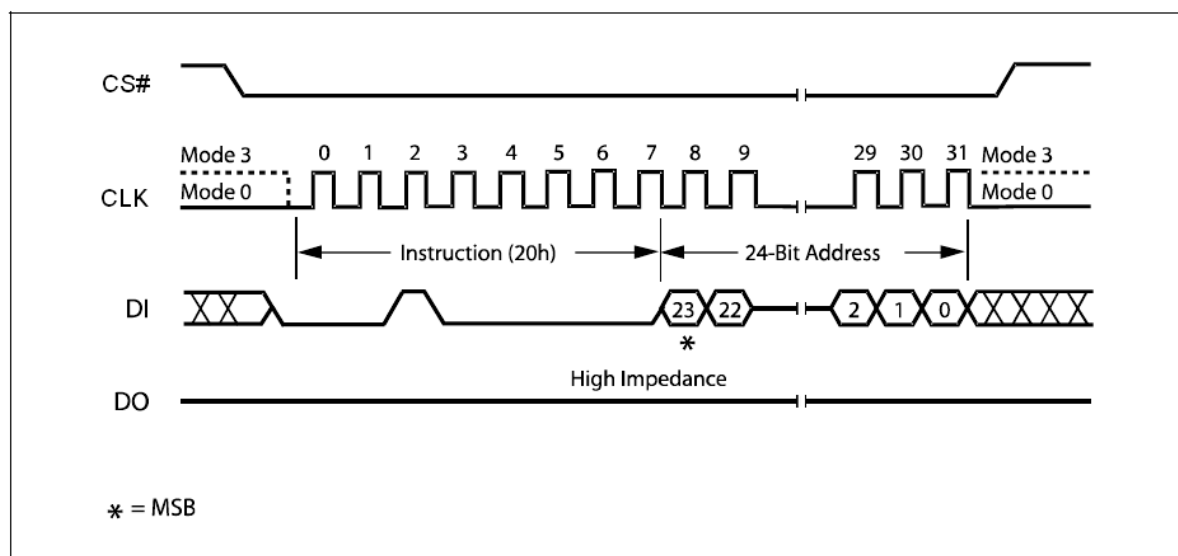

Figure 23. Sector Erase Instruction Sequence Diagram
The instruction sequence is shown in Figure 23. Chip Select (CS#) must be driven High after the eighth bit of the last address byte has been latched in, otherwise the Sector Erase (SE) instruction is not executed. As soon as Chip Select (CS#) is driven High, the self-timed Sector Erase cycle (whose duration is t_{SE}) is initiated. While the Sector Erase cycle is in progress, the Status Register may be read to check the value of the Write In Progress (WIP) bit. The Write In Progress (WIP) bit is 1 during the self-timed Sector Erase cycle, and is 0 when it is completed. At some unspecified time before the cycle is completed, the Write Enable Latch (WEL) bit is reset.